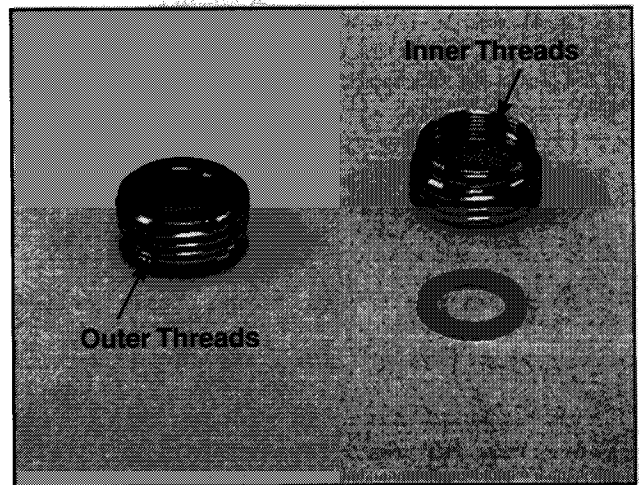

FIG.4-Standard Fitting
- i. The **Standard Fitting (figure 4)** is used 80-90% of the time. It has both inner and outer threads.